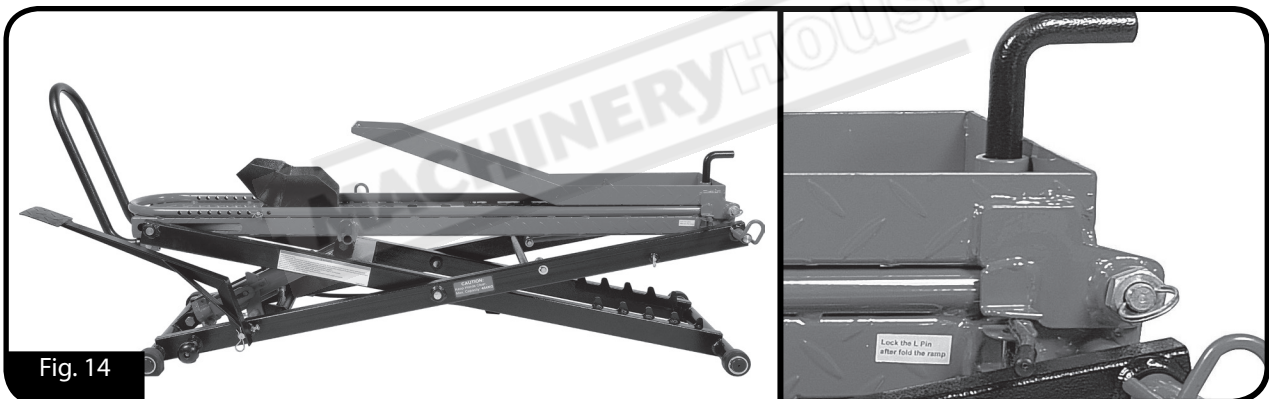

Fig. 14
STEP 4. Fitting the Support Bar (Fig.14)